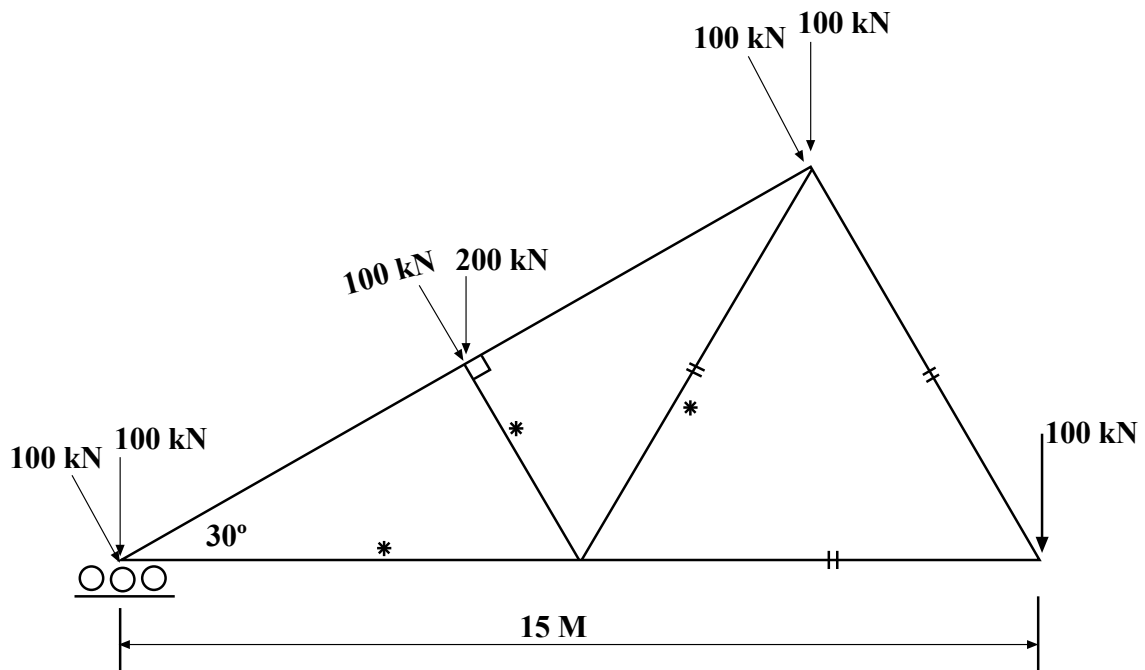

Figure 9
9. **Fig 9**, shows a pin jointed roof truss carrying dead and wind loads hinged on the right hand and supported at the left had end by frictionless rollers.